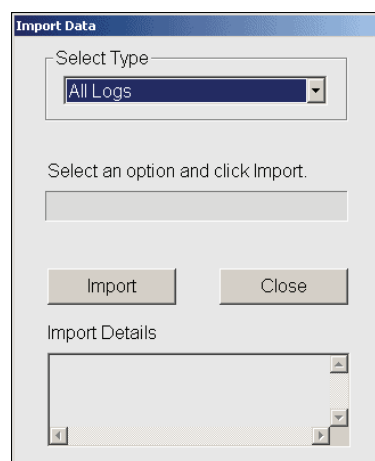

Figure 6.19. Import Data dialog box
Transfer data from the Eclipse to its database on the PC for reporting and archiving. This option is only available on the Eclipse PC software. Pressing **Import...** accesses the Import Data dialog box (Figure 6.19).
4. Select **Import** to access the Import Data dialog box (refer to Figure 6.19).